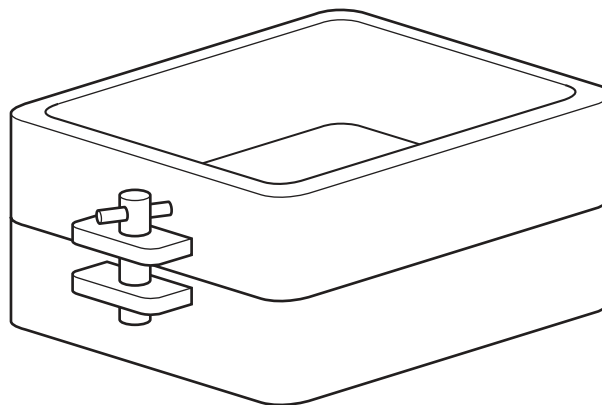

Fig. 2
- 4 Fig. 2 shows two metal boxes that are used in a workshop process.